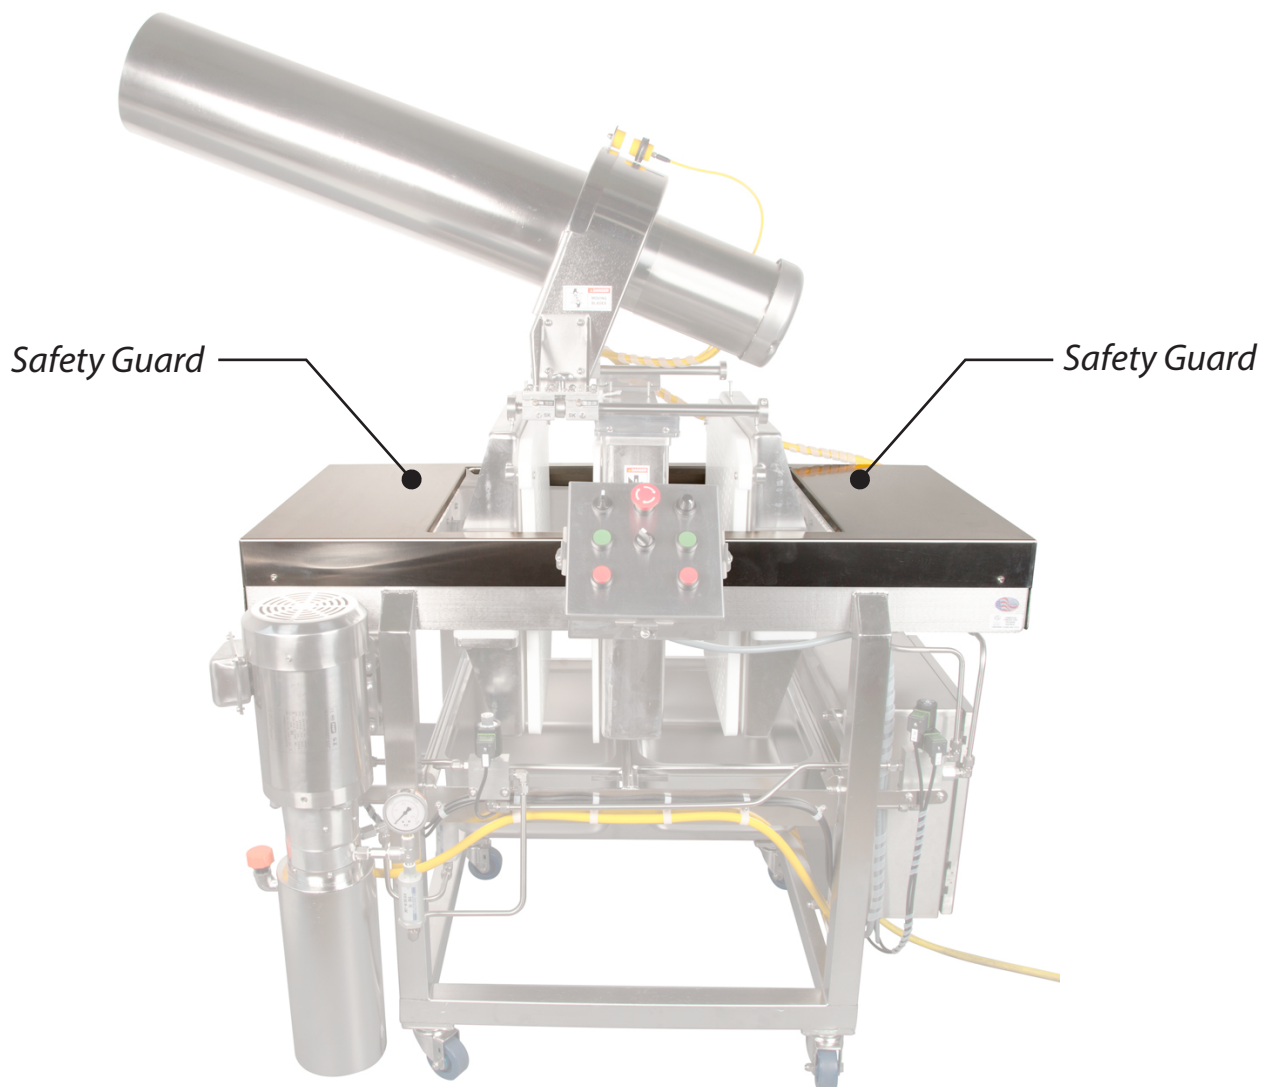

Figure 5
1. The Model 200 Juice Press has guarding designed to shield the operator from hazards associated with the hydraulic system (**Figure 5**). These guards are removable for cleaning (See Section E), but should be replaced and fastened down before the machine is powered on and operated. DO NOT attempt to run the press without the safety guarding installed.